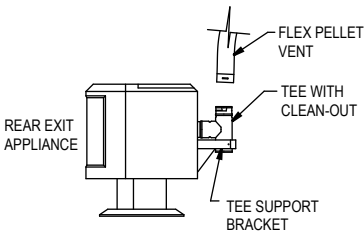

Figure 12
9. If a Tee is necessary to make the connection, as shown in Figure 12, the Tee has a removable Clean Out Adapter on its base to enable cleaning. The Tee Support Bracket to hold the Tee to the rear of the appliance is mandatory. If it is desired to mount the Tee Support to the rear of the stove, obtain